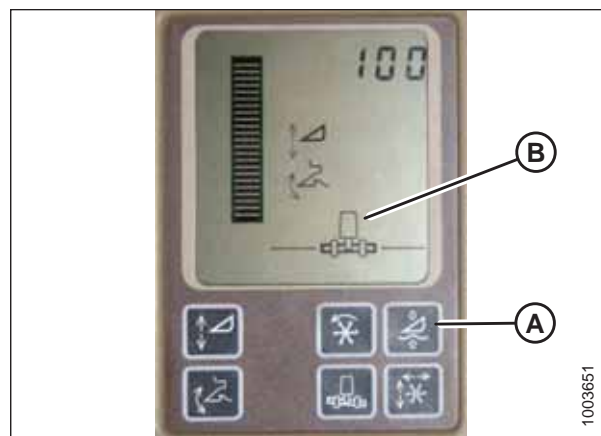

Figure 3.439: John Deere Combine Display
Do **NOT** use active header float function (A) in combination with the MacDon auto header height control (AHHC)—the two systems will counteract one another. Header symbol (B) on the display should **NOT** have a wavy line under it and should appear exactly as shown on the Active Header Control Display in Figure 3.439, page 261.